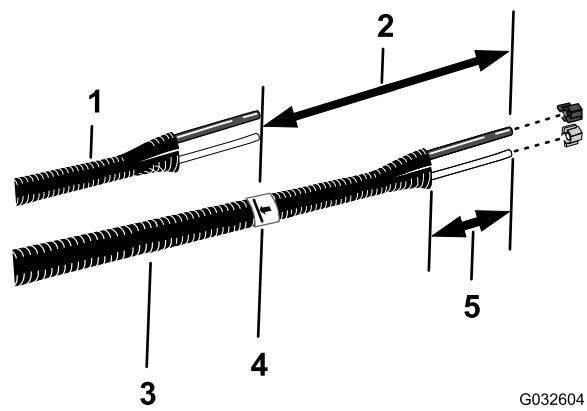

Figure 28
- Align the old liquid and air tubes (Figure 28) to the new tube assembly (Toro Part No. 114-9553).
- At the new tube assembly, add 26 cm (10 inches) length from the mark that you made in step 7, mark the tube assembly, and cut the tubes at the second (longer) mark (Figure 28).
- Remove 77 to 102 mm (3 to 4 inches) of the sheathing from around each end of the tube assembly (Figure 28).